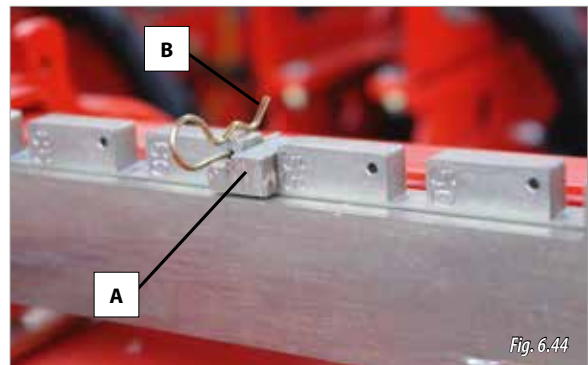

Fig. 6.44
- 1- Remove the pins (B, Fig. 6.44) of the units. Also remove the aperture stops (A, Fig. 6.44).
- 2- Remove the metering unit's pins (B, Fig. 6.44) and the aperture stops (A, Fig. 6.44).